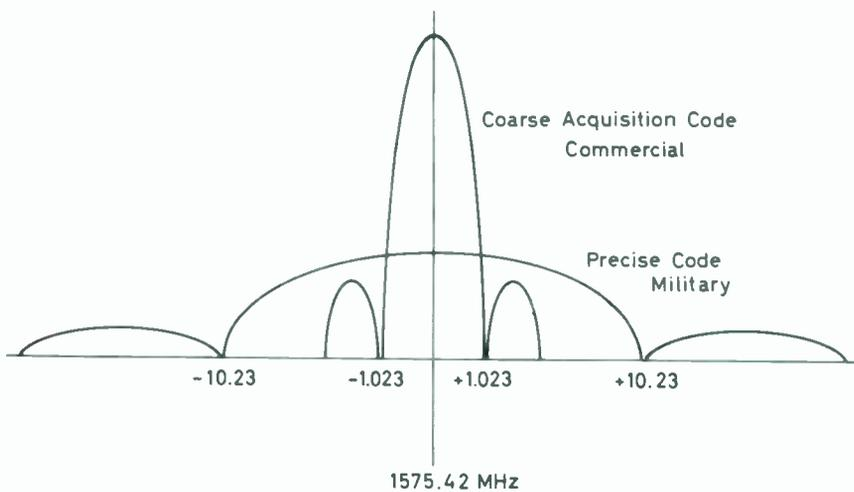

Fig. 2. In this GPS signal spectrum, the central peak is of interest; data contained in the wider curve is for military use and its code is secret.
**Radio-frequency front end.** The RF front end takes the incoming 2MHz-wide signal at 1575.42MHz with a received power of  $-163\text{dB}$ , and amplifies it. It then down converts it to a convenient frequency. The spectrum is shown in Fig. 2.; the wider curve is the military signal whose code is secret so we cannot unscramble it. Our desired signal is the coarse acquisition (C/A) code, which forms the central peak.